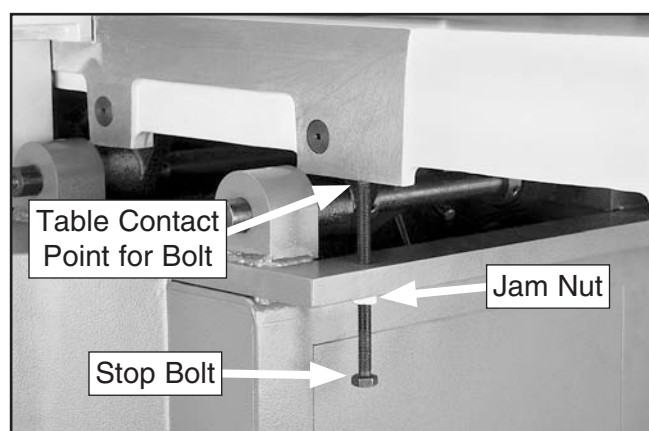

Figure 45. Outfeed table stop bolt.
4. Loosen the jam nut and stop bolt located under the outfeed table (see **Figure 45**). Make sure to back the stop bolt away from the area where it contacts the table. This will allow the table room to move during the adjustments in the following steps.
3. Loosen the jam nut and stop bolt located under the outfeed table (see **Figure 45**). Make sure to back the stop bolt away from the area where it contacts the table. This will allow the table room to move during the adjustments in the following steps.
8. Loosen the jam nut and adjust the outfeed stop bolt underneath the table so that it just touches the bottom of the tables, as shown in **Figure 45** on **Page 34**, then re-tighten the jam nut.